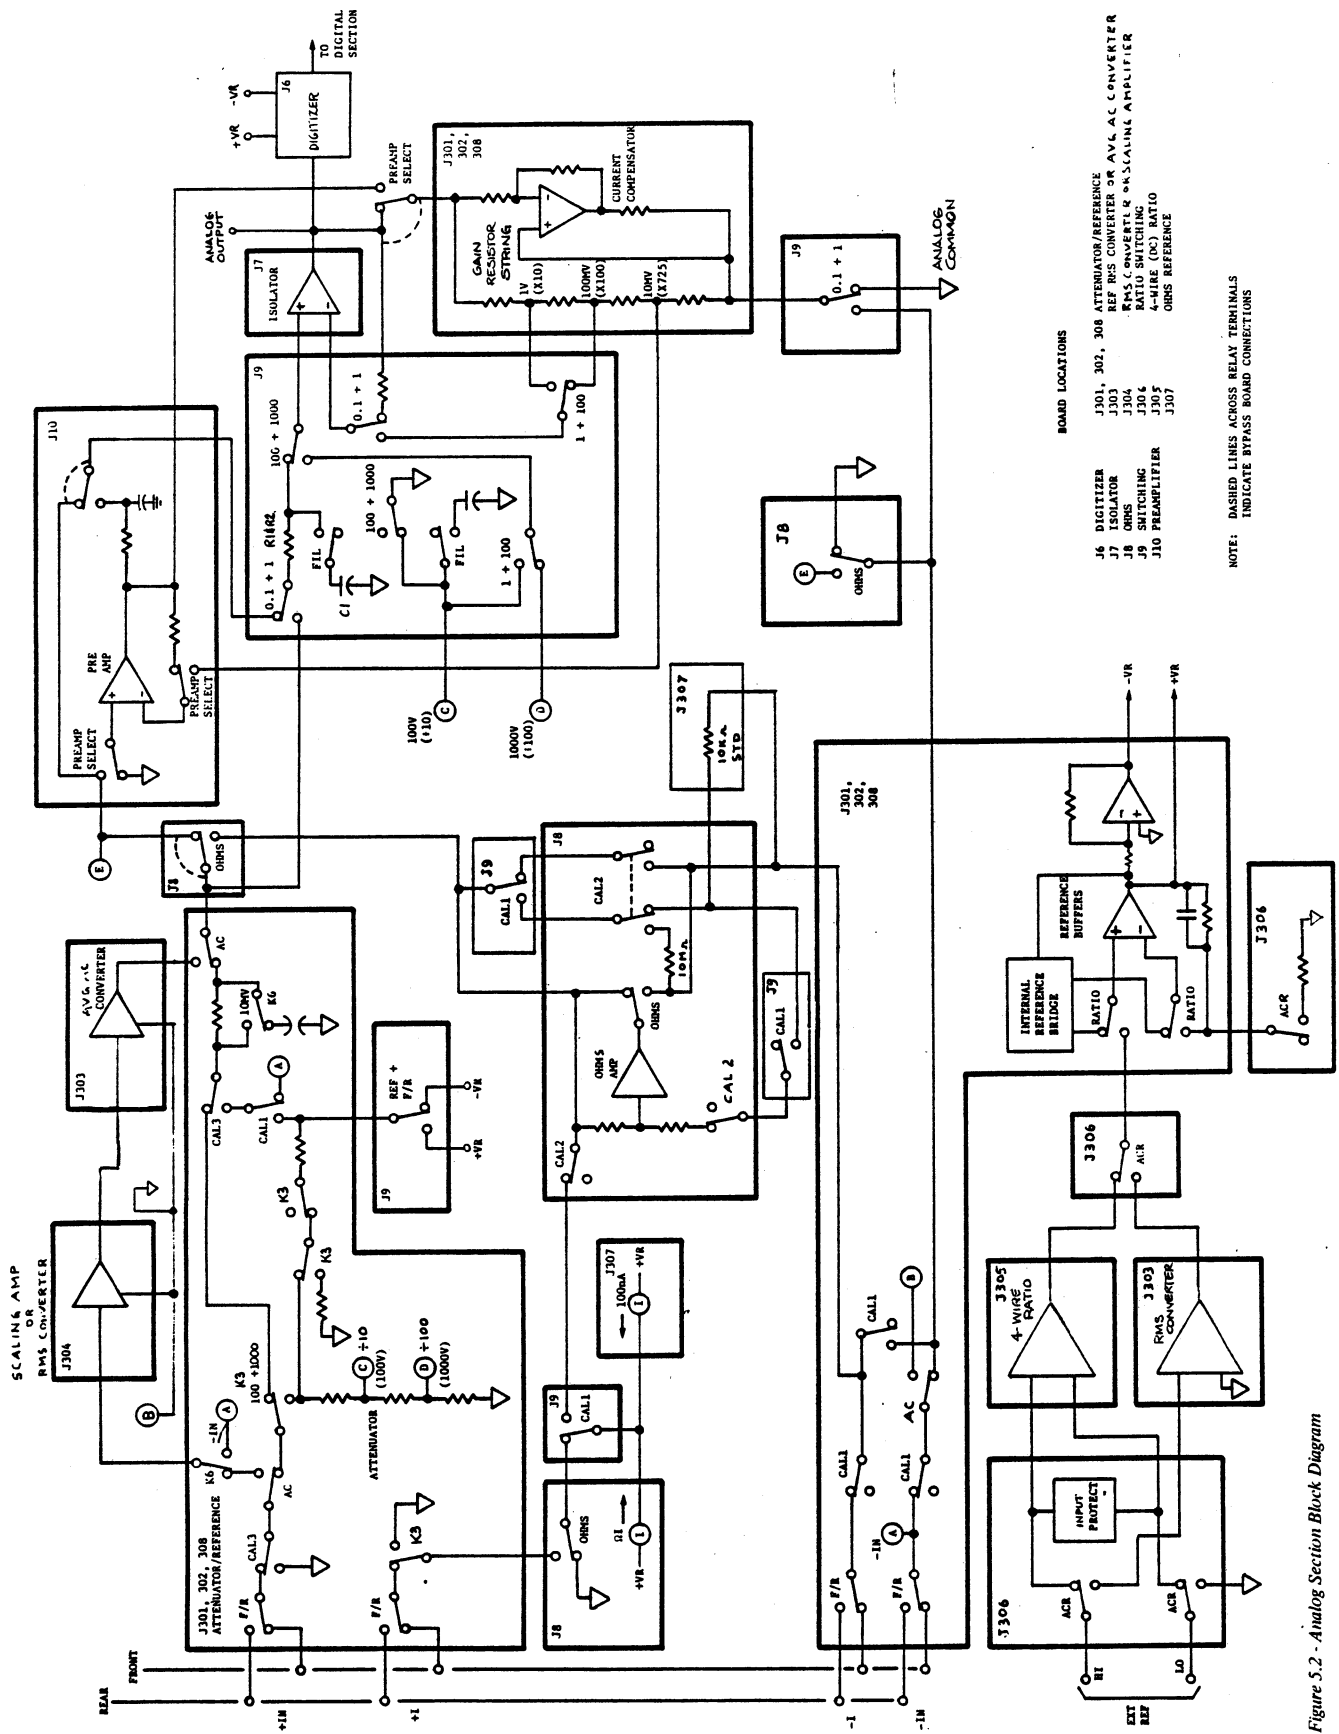
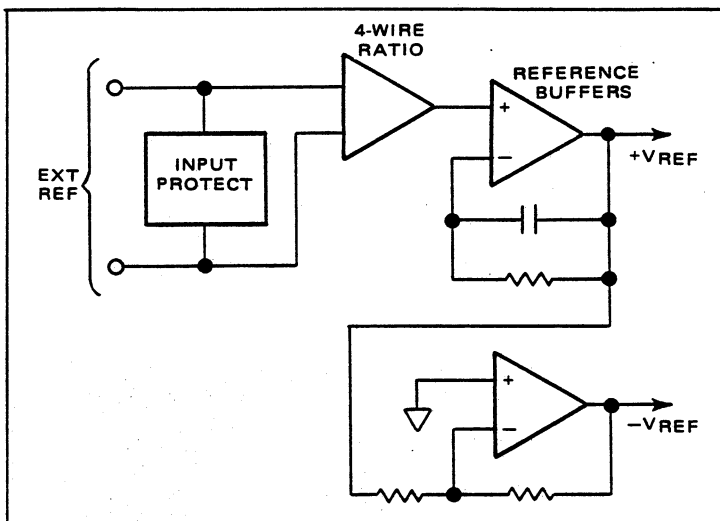

Figure 5.2 - Analog Section Block Diagram
Figure 5.12 - External Reference (DC EXT REF)
5.3.1 The following paragraphs present a detailed analysis of the signal conditioning process. A block diagram of the Analog section may be found in Figure 5.2.
5.3.4.3.2 DC signal inputs may be traced from the selected +IN terminal through contacts of the F/R (Front/Rear), Cal 3 and AC relays (reference Figure 5.2). The path from the selected -IN terminal is routed through contacts of the F/R, Cal 1 and AC relays. Signal routing beyond these points is dependent upon range selection.
5.3.4.6.2 The Model 6000 will accept DC external reference voltages between $+1.0$ and $+10.5$ volts when DC EXT REF is selected. As shown in Figure 5.2, the external reference voltage is routed through the normally closed contacts of the ACR relay to the differential inputs of the 4-Wire Ratio amplifier. The 4-Wire Ratio amplifier acts as a buffer, and eliminates ground loop errors by permitting the reference voltage to float with respect to the input signal common. The output of the 4-Wire Ratio amplifier is routed through the normally closed contacts of the ACR relay and the normally open contacts of the Ratio relay to the input of the Reference Buffers. The Reference Buffers are unity gain amplifiers, and provide plus and minus reference voltages equal in magnitude to the external reference voltage. A simplified block diagram is shown in Figure 5.12.